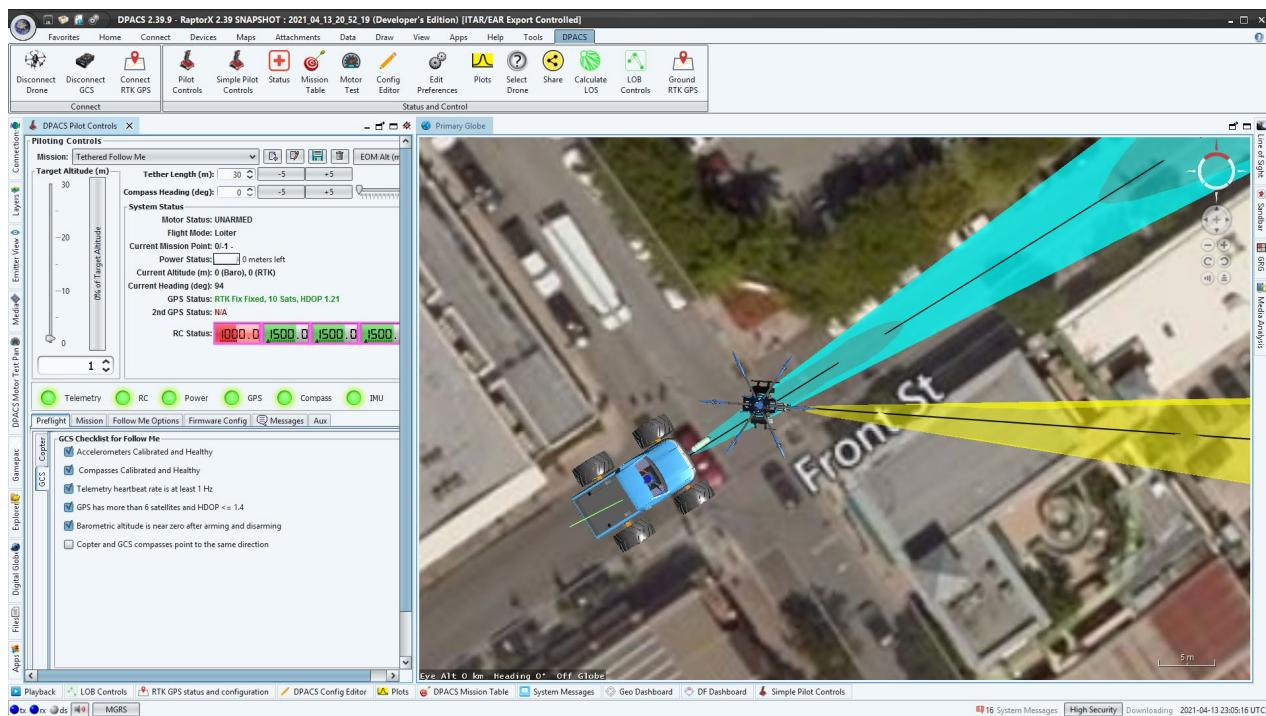
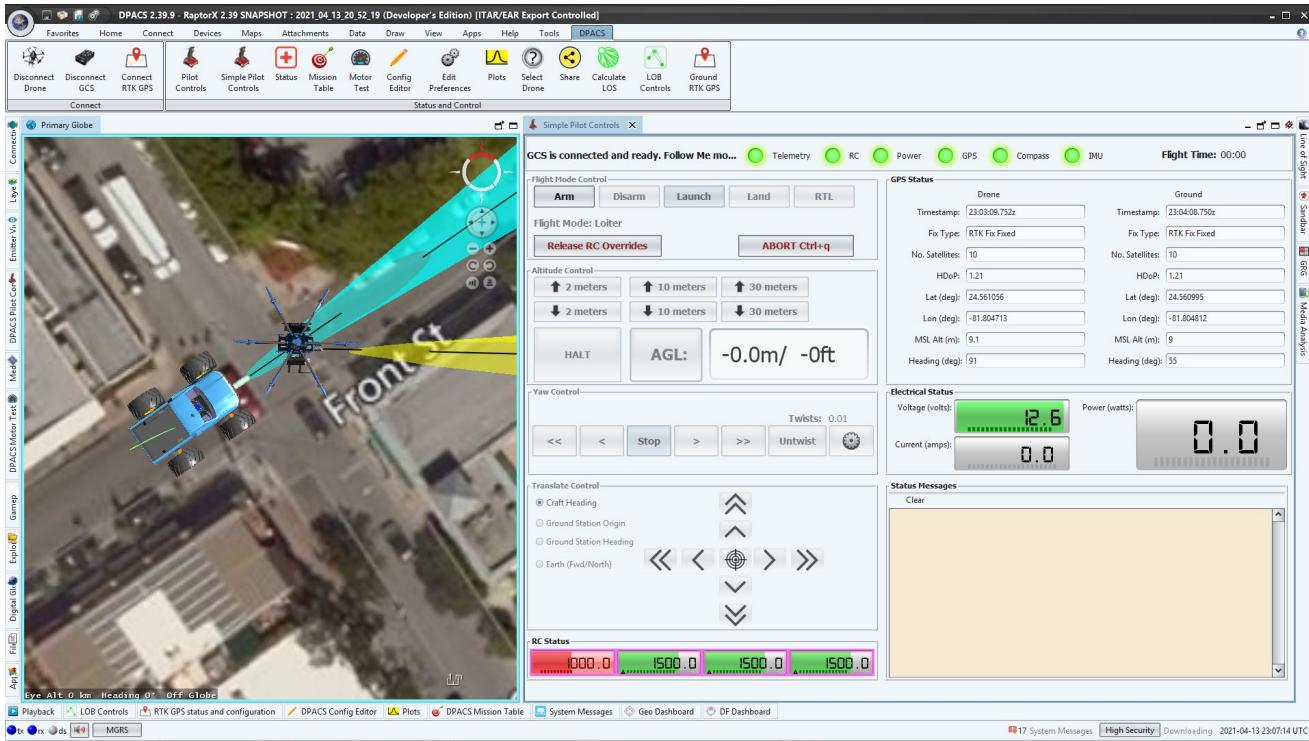

Figure 18 – DPACS Pilot Controls panel view with the Drone and GCS connected
Figure 19 – Simple Pilot Control panel view with the drone and GCS connected.
4. Once the GCS is connected, the checkboxes should all be checked except for the last one in the GCS tab of the Preflight panel. The GPS timestamp should also be changing rapidly in the GCS tab of the DPACS Status Panel as shown in Figure 18 and in the Ground GPS timestamp in the GPS States panel of the Simple Pilot Panel shown in Figure 19.